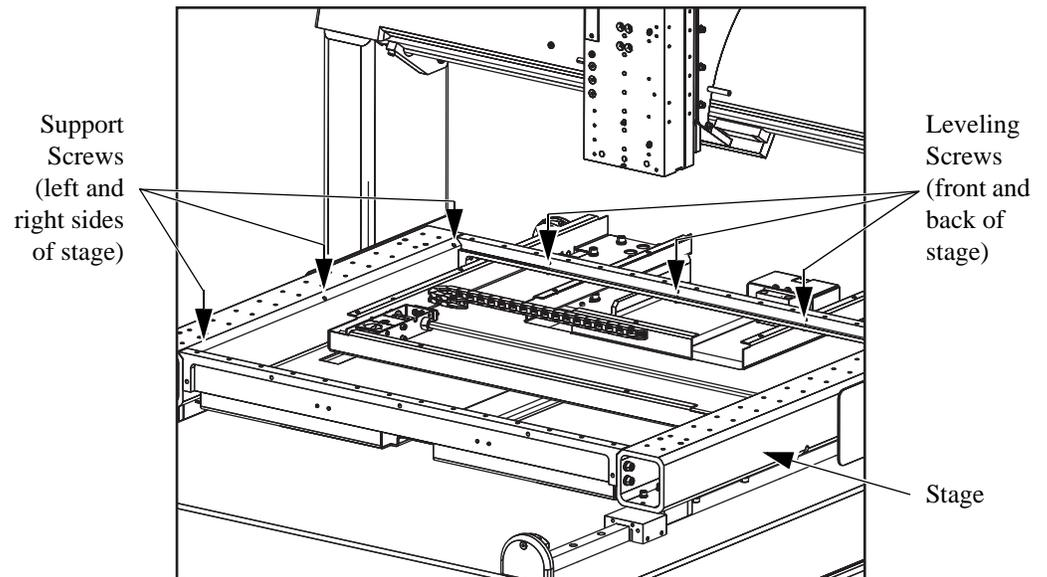

Figure 4-12 Location of Stage Glass Leveling Screws
12. Use a 3 mm Allen wrench to **loosen** the six nylon-tipped stage glass support screws (accessed from below the stage); see Figure 4-12. Use the access holes on the sides of the stage to access the two middle screws.